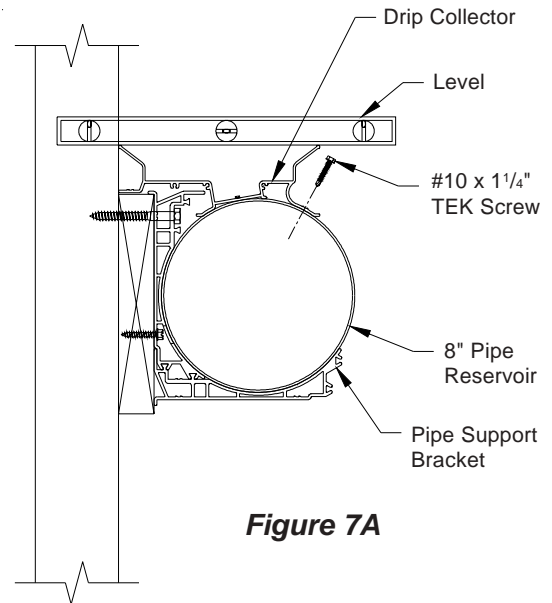

Figure 7A
- 10a) Starting 2" from left end of the drip collector, keeping drip collector level, fasten to 8" pipe using #10 x 1/4" TEK screw (provided). Continue fastening drip collector to 8" pipe using #10 x 1/4" TEK screws at 16" O.C., use the V-groove as a guide. **See Figures 7A and 7B.**